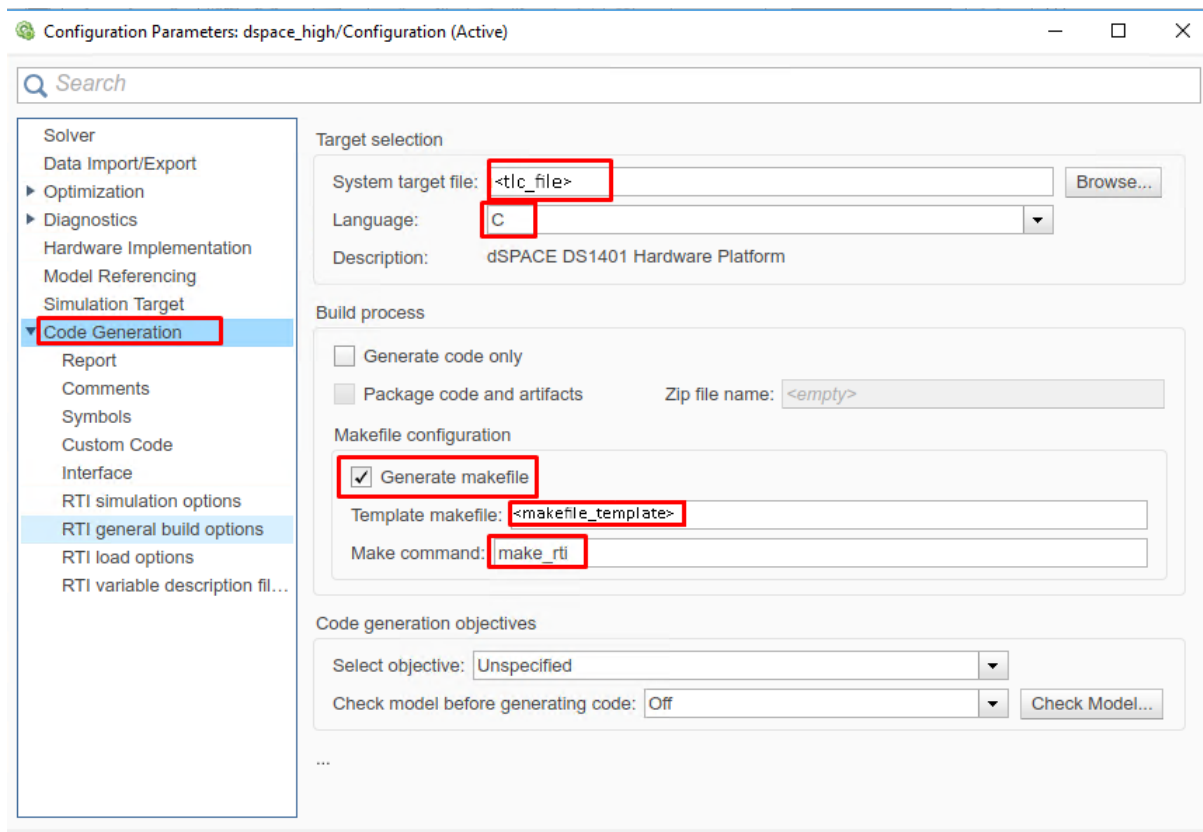

Figure 13.9: Set the Simulink code generation options.
9. (Figure 13.9) In the "Code Generation" tab, set the options (for <tlc_file> and <makefile_template> see *Simulink Model HW Target Configuration*):